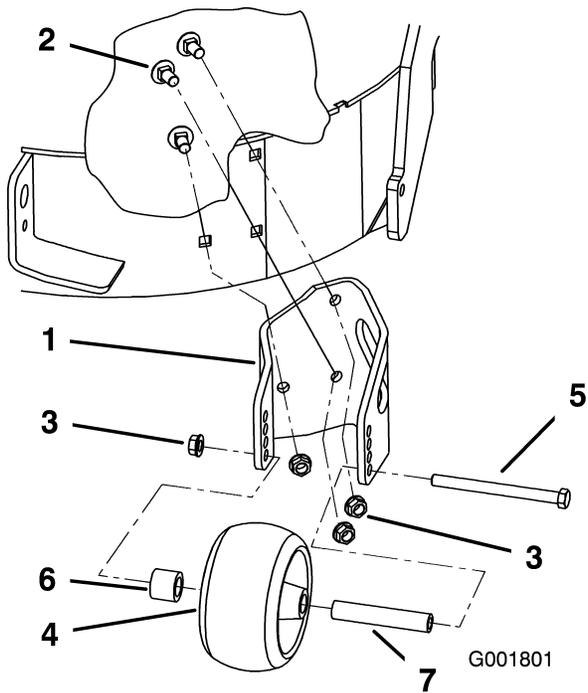

Figure 1
- Install the wheel bracket to the mower using 3 carriage bolts (3/8 x 3/4 inch) and flange nuts (3/8 inch) (Figure 1).
spacer/wheel assembly at the desired height (Figure 1).
- Secure the wheel with a flange nut (3/8 inch) (Figure 1).
- Slide the long spacer into the wheel (Figure 1).
- Place the short spacer inside the wheel hub on the side of the wheel with the short hub (Figure 1).